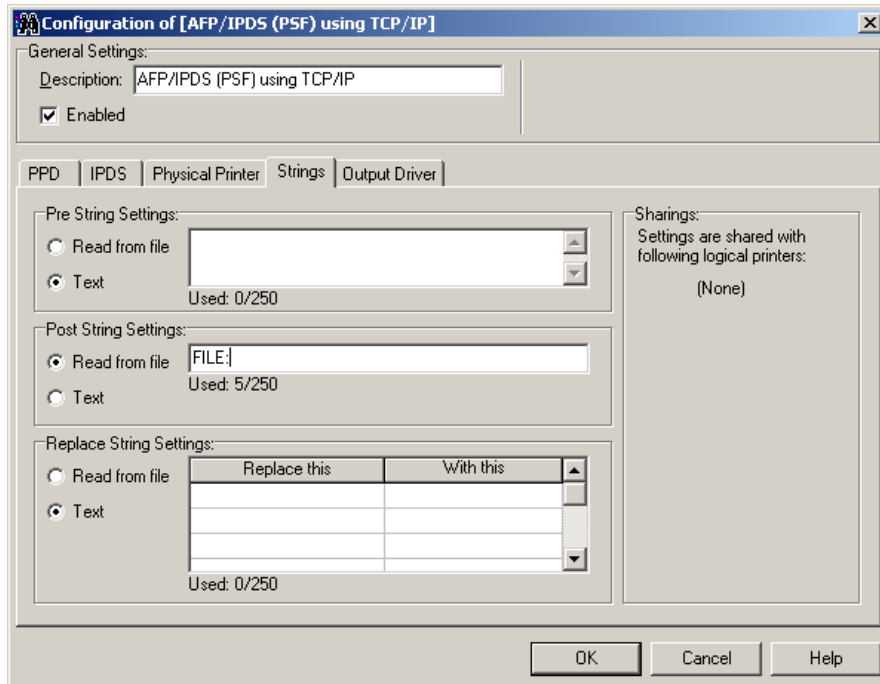

Figure 11
10. Click the Strings tab to get the Strings Settings (Figure 11).